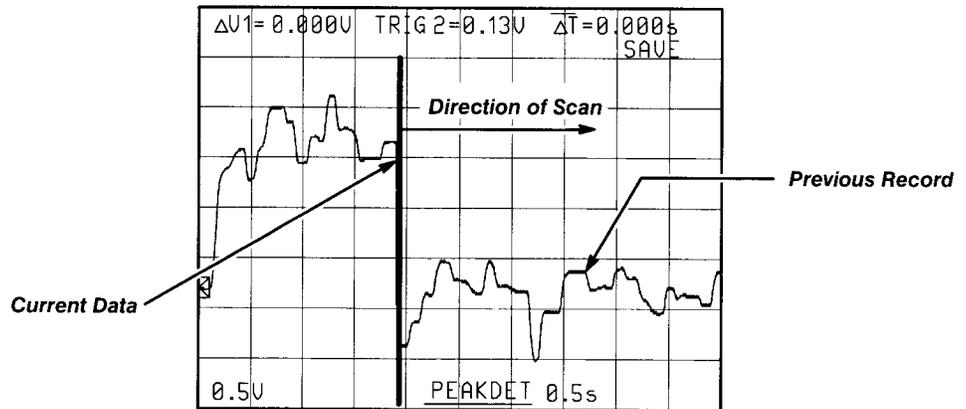

Figure 3-6: Scan Mode
- Step 4:** Note that the acquisition record appears across the screen from left to right, then repeatedly overwrites the previous record with new data (Figure 3-6).